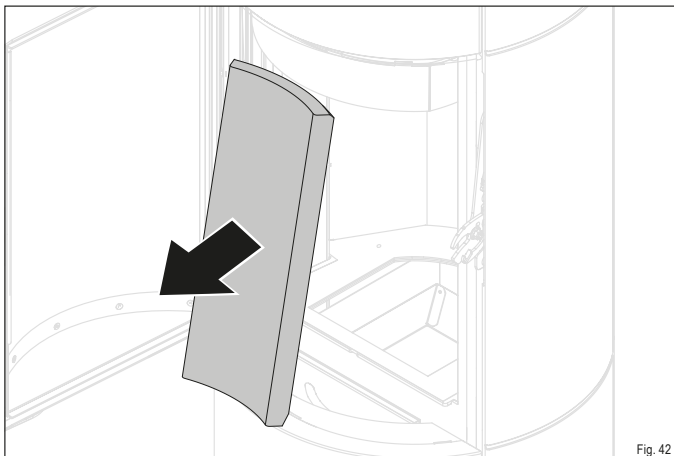

Fig. 42
- ▶ Remove the back firebrick (Fig. 42).